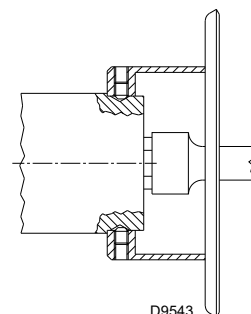

Fig. 19
- remove the nozzle 1)(Fig. 19) using a wheel spanner;
- install the nozzle 1)(Fig. 19);